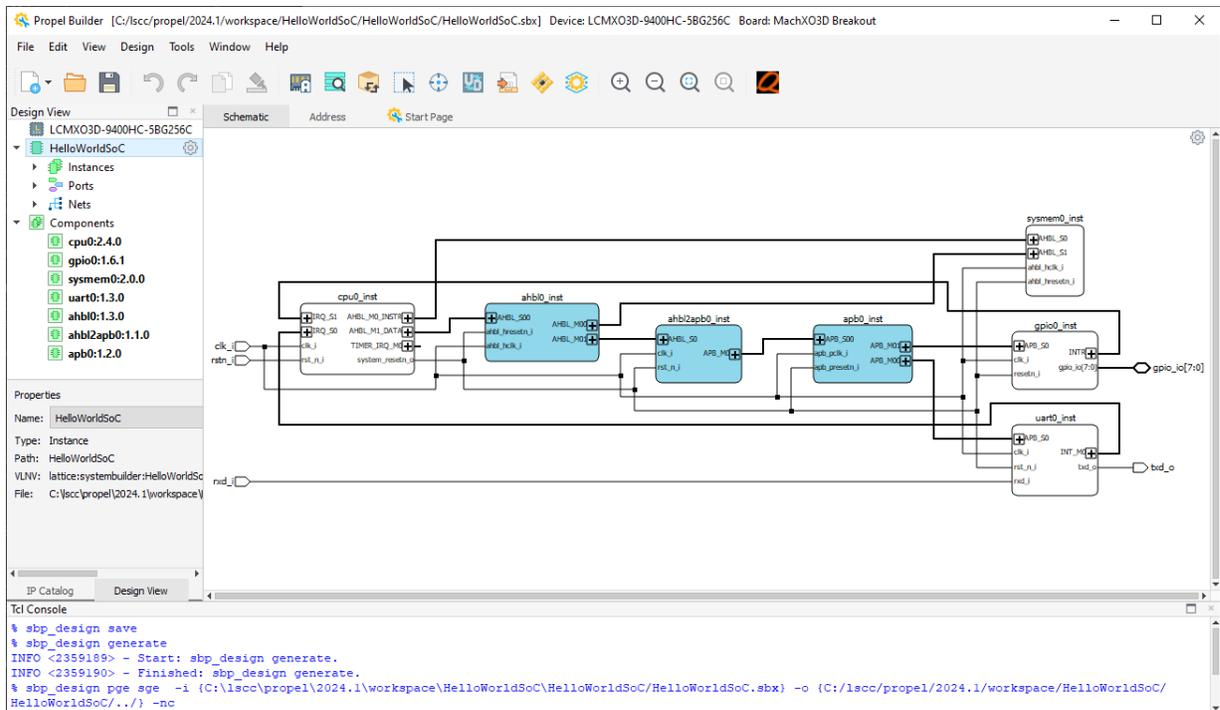

Figure 4.4. Propeller Builder Window
4. The created SoC project can be found in the workbench. Its design is opened and displayed in Propel Builder for review (Figure 4.4).